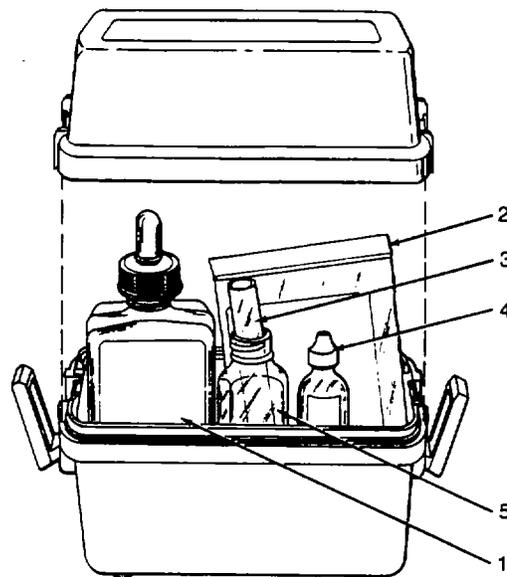

Figure 2-7. Acidity Test Kit.
c. Equipment Used: Found in *Acidity Test Kit*, para 2.6.3, fig. 2-7
Standard sodium hydroxide solution, (1), fig. 2-7
Test tube, (3), fig. 2-7
Bromcresol green-methyl red, (2), fig. 2-7
Mixing bottle, (5), fig. 2-7
- (1) Collect the water sample by filling the plastic measuring tube(3, fig. 2-7) to the brim. Pour the sample into the mixing bottle(5).
- c. Equipment Used: Found in *Acidity Test Kit*, para 2.6.3, fig. 2-7
Standard sodium hydroxide solution, (1), fig. 2-7	Bromcresol green-methyl red, (2), fig. 2-7
Test tube, (3), fig. 2-7	Mixing bottle, (5), fig. 2-7
- (1) Collect water sample by filling the mixing bottle (5, fig. 2-7) up to the 23 ml mark with the water to be tested.